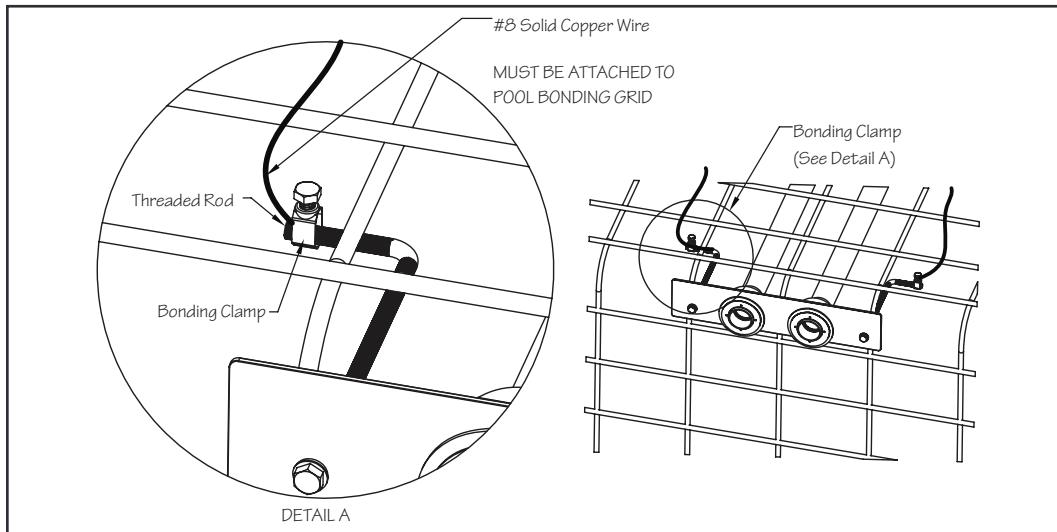

Fig. 4.20
**The threaded rods MUST be tied into the pools bonding grid.** Secure a bonding clamp to each threaded rod. Attach a #8 solid copper wire to each bonding clamp. These wires **MUST** be attached to a bonding connection that's incorporated into the pools bonding grid. In most cases this will be a connection at the rebar. Verify ALL bonding connections are tight before shooting gunite (Fig. 4.20).